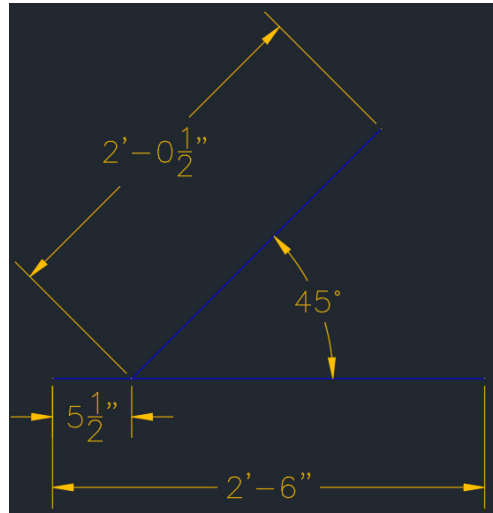

Figure 7.2 – Centerline representation of custom fitting (with dimensions)
3. Place the 24 ½ inch branch centerline on the 30-inch main centerline 5 ½ inches in, with the end result looking similar to that shown in *Figure 7.2*.